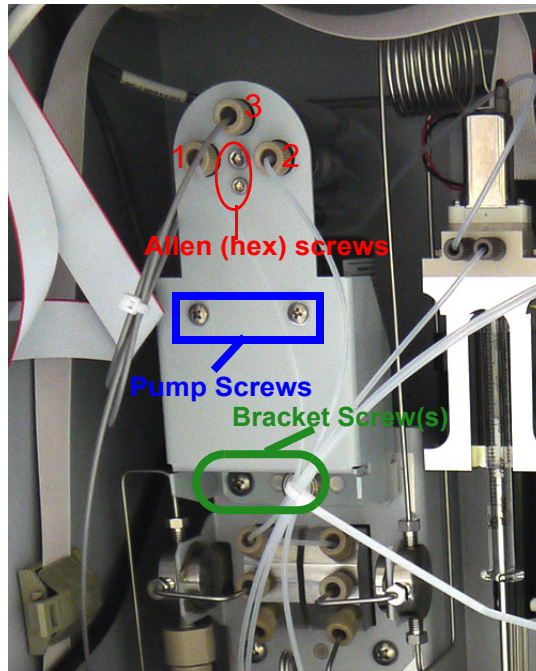

Figure 67: ICR Bracket - Removing Tubing Connections and Screws
7. On the fluidics side of the Analyzer, remove the three knurled-nut tube connectors (1, 2, and 3 in Figure 67) from the degasser.
8. Use a Phillips-head (cross-head) #1 screwdriver to remove the bracket screw (or two side-by-screws) (Figure 67) securing the ICR bracket to the Analyzer.
9. Remove the two pump screws (Figure 67) in the center of the ICR bracket to release the pump.